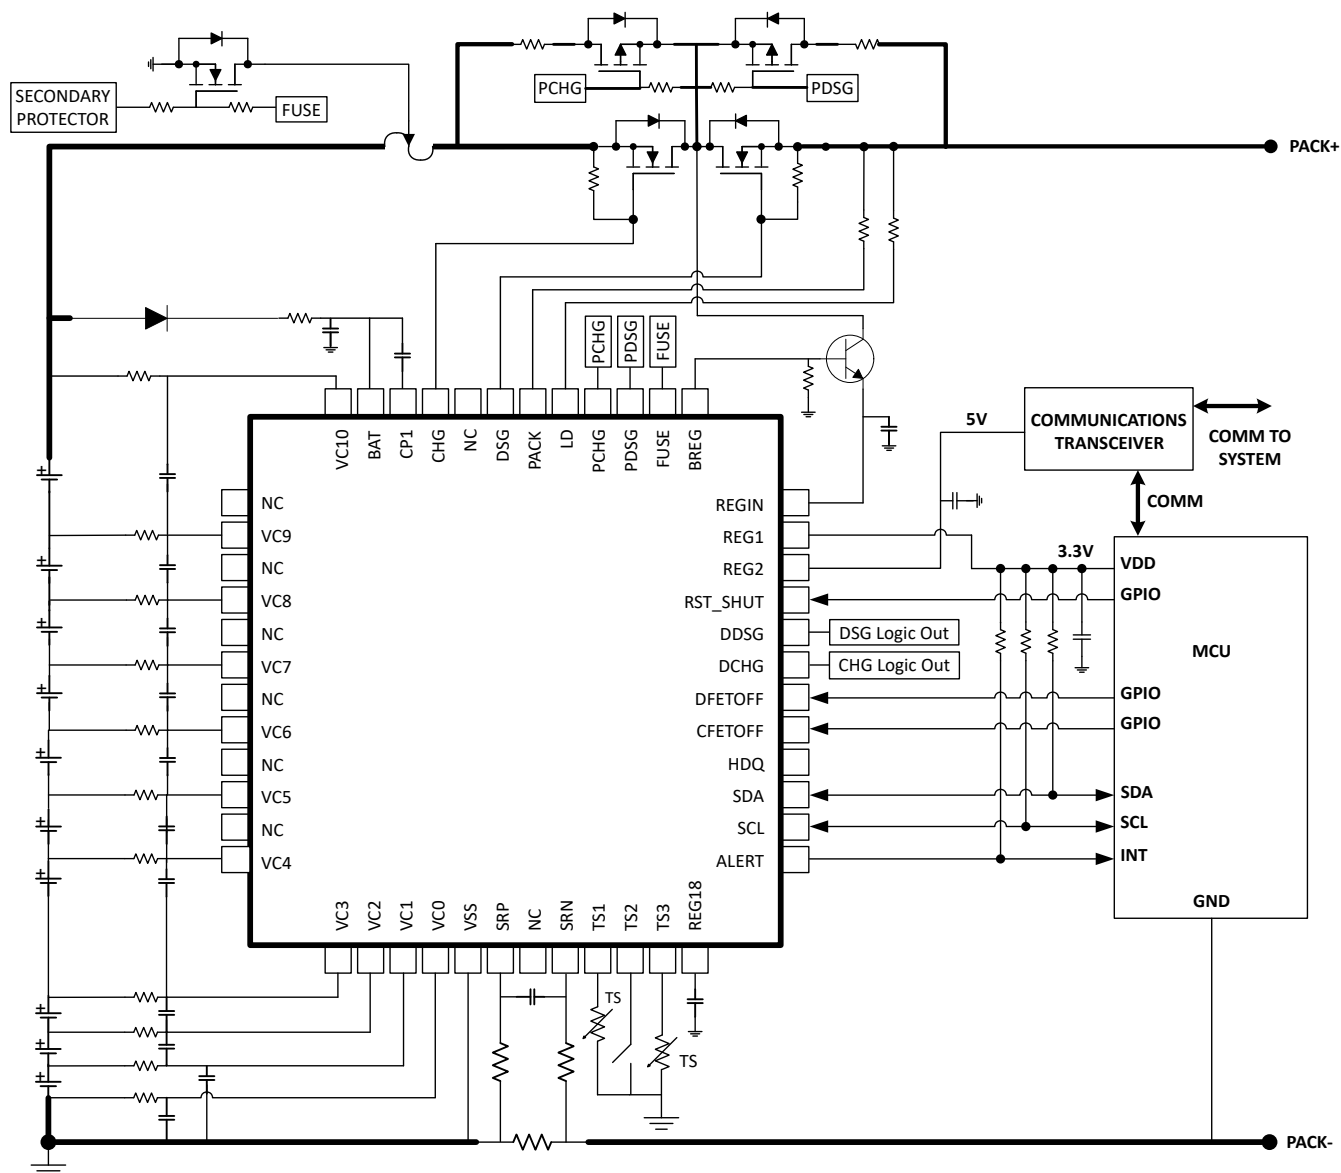

图 16-1. BQ76942 10-Series Cell Typical Implementation (Simplified Schematic)
**Figure 16-1** shows a simplified application schematic for a 10-series battery pack, using the BQ76942 together with an external secondary protector, a host microcontroller, and a communications transceiver. This configuration uses CHG and DSG FETs in series, together with high-side PFET devices used to implement precharge and predischARGE functionality. See the following implementation considerations:
- Power dissipation, which can be a factor of the RDS(ON) rating of the FET, the FET package, and the PCB design.
- The overdrive level of the BQ76942 device charge pump should be selected based on RDS(ON) requirements for the protection FETs and their voltage handling requirements. If the FETs are selected with a maximum gate-to-source voltage of 15 V, then the 11-V overdrive mode within the BQ76942 device can be used. If the FETs are not specified to withstand this level, or there is a concern over gate leakage current on the FETs, the lower overdrive level of 5.5 V can be selected.
- A diode can optionally be included in the collector circuit of the BJT, in order to avoid reverse current flow from BREG through the base-collector junction of the BJT to PACK+ during a pack short circuit event. This diode can be seen in 图 16-1 at D2.